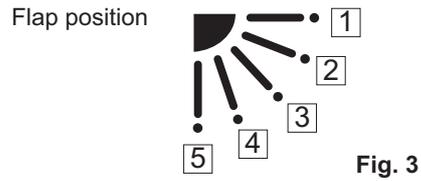

Fig. 3
* Setting data "**YYYY**" (refer to Fig.3)
When the flap position is set to **4** or **5** and the unit is in the cooling or dry mode, the flap position is moved to **3** and the operation is started. (refer to Fig.3)
At this time, the unselected flaps are moved to the position **1**. (refer to Fig.3)